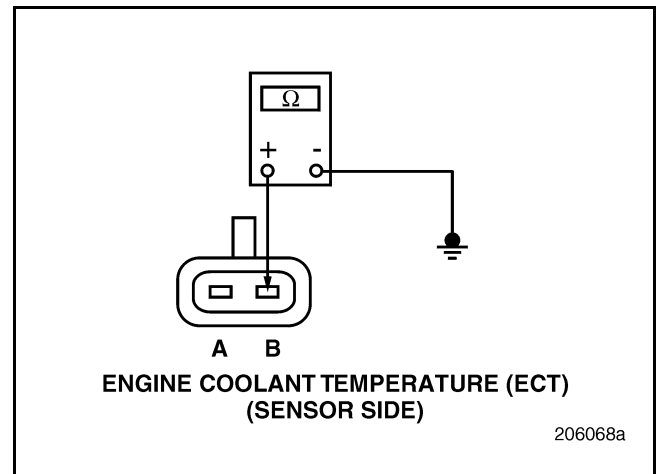

Figure 151
3. Check for continuity between either pin of the ECT Sensor and a good ground (see Figure 151).